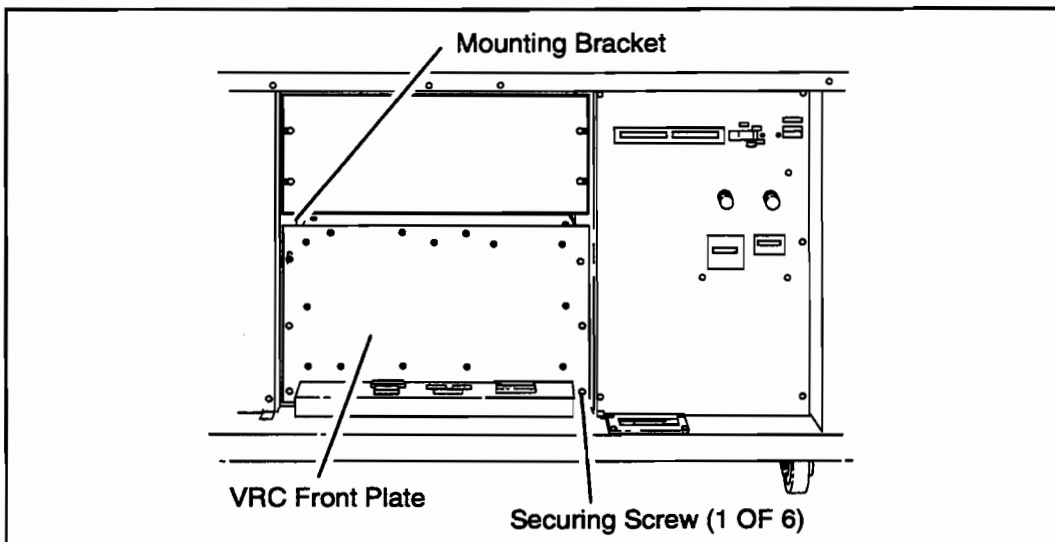

Figure 3-10. Securing the VRC Front Plate
6. Secure the front plate of the VRC to the VRC mounting brackets on either side of the VRC opening using the hardware supplied. See Figure 3-10. Ensure that a washer is mounted on each screw; so that the washer will be between the screw head and the front plate when the screw is installed.